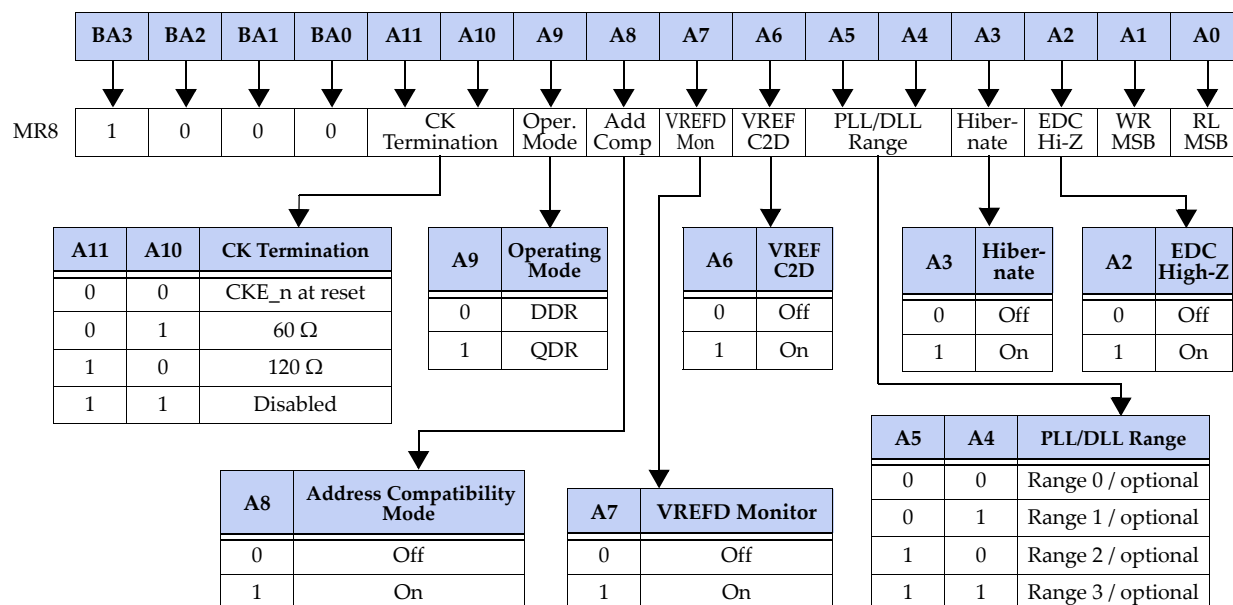

Figure 30 — Mode Register 8 (MR8) Definition
MR8 controls functions like the MSBs for read latency (RLmrs) and write recovery (WR), EDC High-Z, Hibernate self refresh, PLL/DLL range, VREF C2D, VREFD monitor, address compatibility mode, QDR/DDR operating mode, and CK termination as shown in Figure 30. The register is programmed via the MRS command with BA[3:0] = 1000. Bits A[11:10] of this register are initialized with 0.